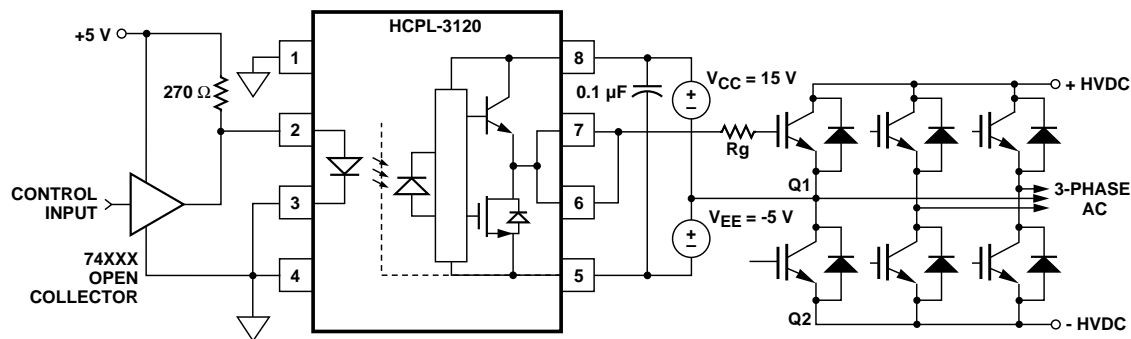

Figure 26. HCPL-3120 typical application circuit with negative IGBT gate drive.
**Step 1: Calculate  $R_g$  Minimum from the  $I_{OL}$  Peak Specification.** The IGBT and  $R_g$  in Figure 26 can be analyzed as a simple RC circuit with a voltage supplied by the HCPL-3120.
For the circuit in Figure 26 with  $I_F$  (worst case) = 16 mA,  $R_g = 8 \Omega$ , Max Duty Cycle = 80%,  $Q_g = 500 \text{ nC}$ ,  $f = 20 \text{ kHz}$  and  $T_A \text{ max} = 85^\circ\text{C}$ :